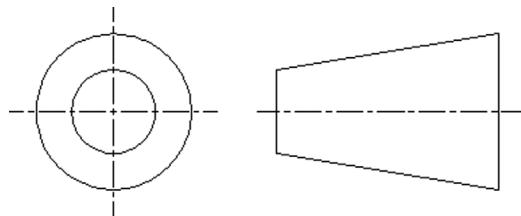

FIGURE 27.8 Third Angle view projection.
- *Projections:* These can be front, back, top, bottom, side, and isometric in nature. Be aware of how projected views are oriented from the parent view and where they are located. In the commonly used Third Angle projection, a head-on view turns to the right and faces the parent view (relative to you, the observer). Fig. 27.8 demonstrates the convention used. There is also a First Angle projection, where the side view is the main one, not the front.